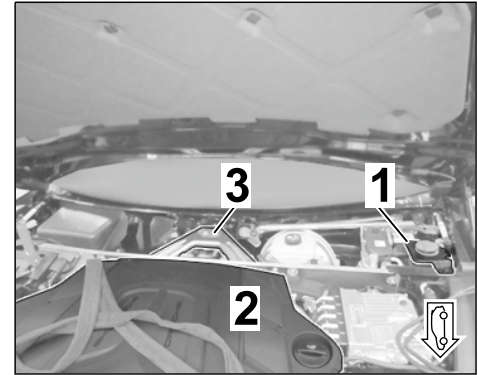

Figure 6
1.3 Expose plenum panel area (⇒ *Figure 6*)